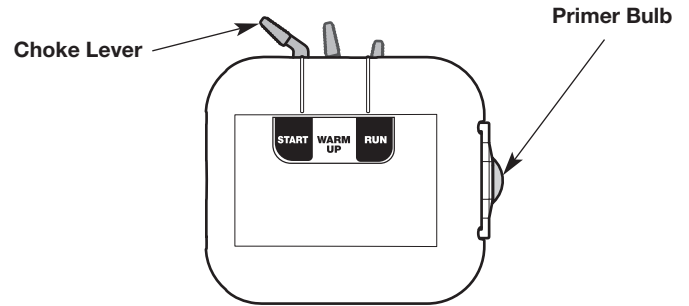

Fig. 4
1. Slowly press and release the primer bulb **10 times** (Fig. 4). If fuel cannot be seen in the primer bulb, press and release the primer bulb until fuel is visible.
2. Move the choke lever to the **START** position (Fig. 4).
6. Move the choke lever to the **WARM UP** position (Fig. 4).
9. Move the choke lever to the **RUN** position (Fig. 4). Allow the engine to warm up for an additional 60 seconds. The unit may be used during this time.